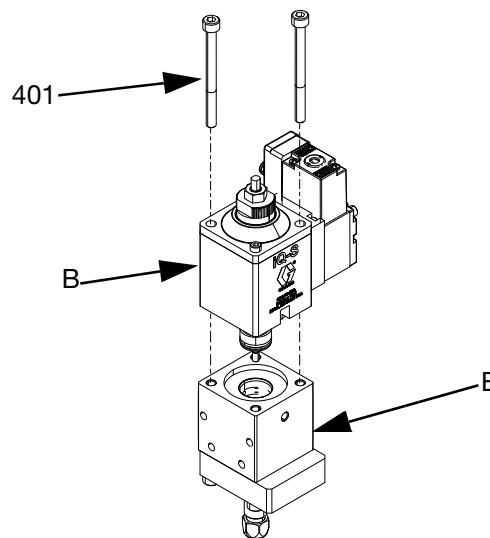

FIG. 11
4. Remove the Snuff-Back adapter (308) and spacer (315).
5. Place an Allen key through the piston rod (410) hole located in the Weep Hole (K). Unthread the nut (310) using a 5.5 mm socket or nut driver and remove the tip (309).
6. If the Fluid Section (E) is not mounted, place the Fluid Section in a vise.
7. Remove the M5 screws (401) using a 4mm allen wrench from the top of the air cylinder. Gently pull the Air Section (B) until the piston rod (410) is removed from the Fluid Section (E). See FIG. 11.
**NOTE:** O-rings in the Fluid Section (E) may stick to the u-cup cartridge, requiring more force to separate the Fluid and Air Sections (E, B).
8. If necessary, replace the Air Section (B) with an assembled Air Section with rod, u-cup cartridge, and tip.
9. To access or replace the Ball Seat and Tip Seat valves, remove the Air Section Screws (401) from the top of the Air Section (B). Pull the Air Section from Fluid Section.